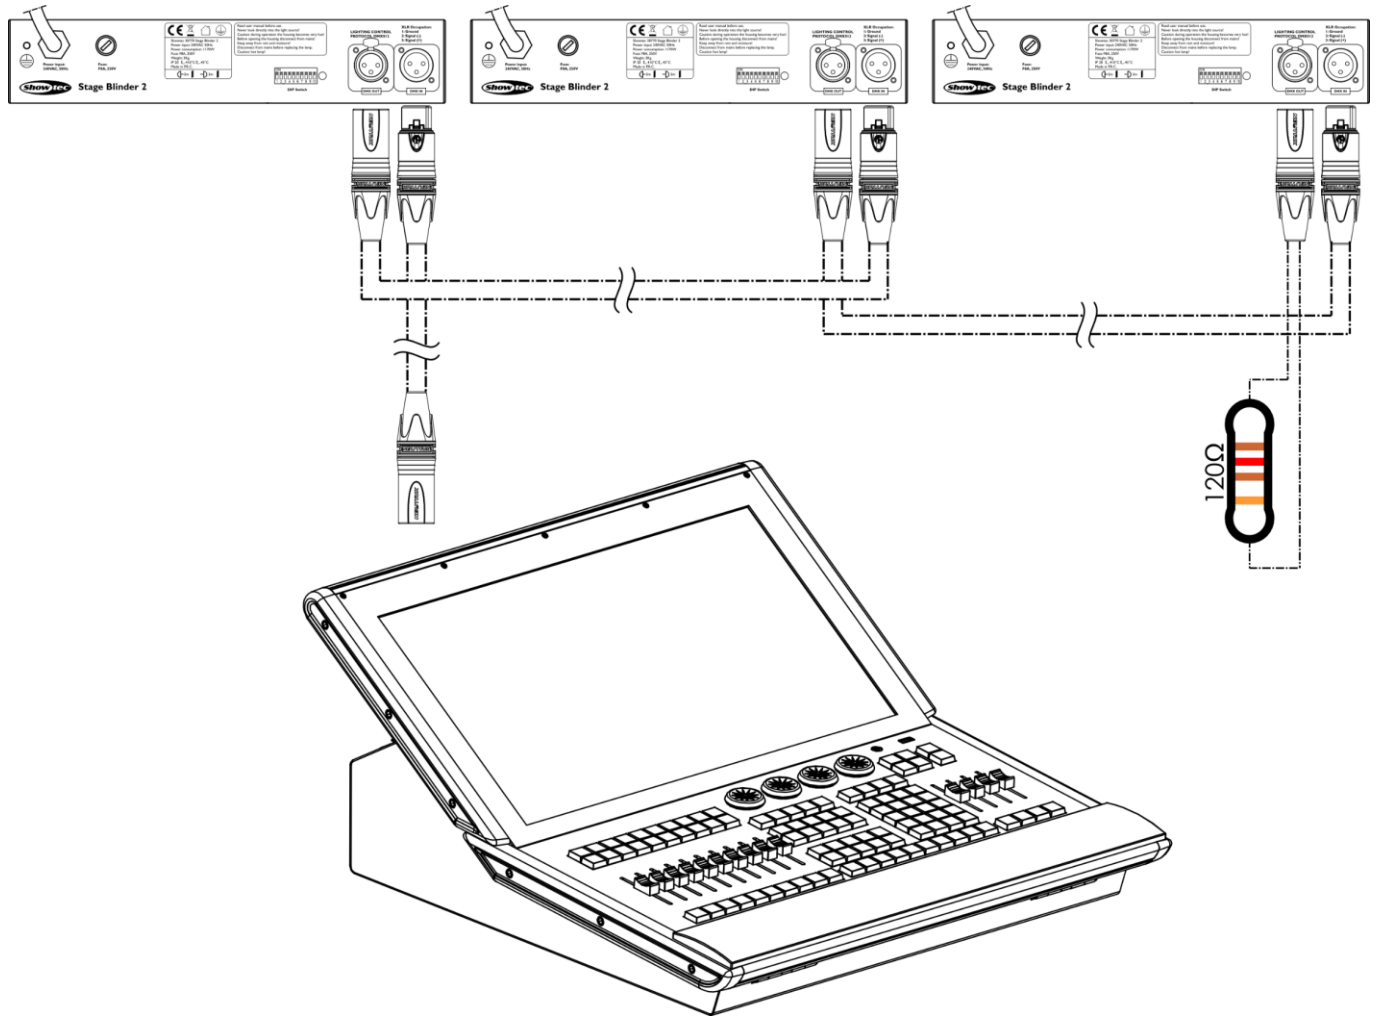

Fig. 07
- 01) Link the devices as shown in Fig. 07. Connect the first device's DMX "out" socket with the second device's "in" socket, using a DMX-signal cable. Repeat this process to link the second, third, and fourth devices.